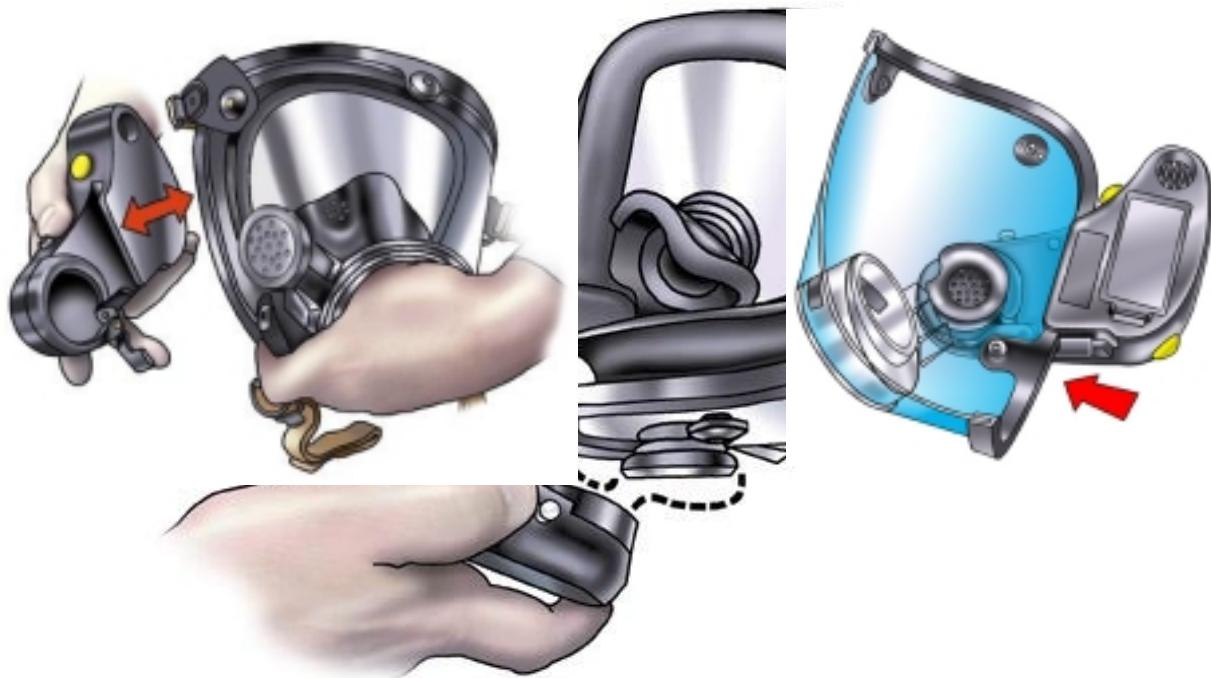

FIGURE 6
4. While still holding the lever wide open, slide the right edge of the facepiece into the mounting groove of the TeamTalk™ unit (Figure 6).